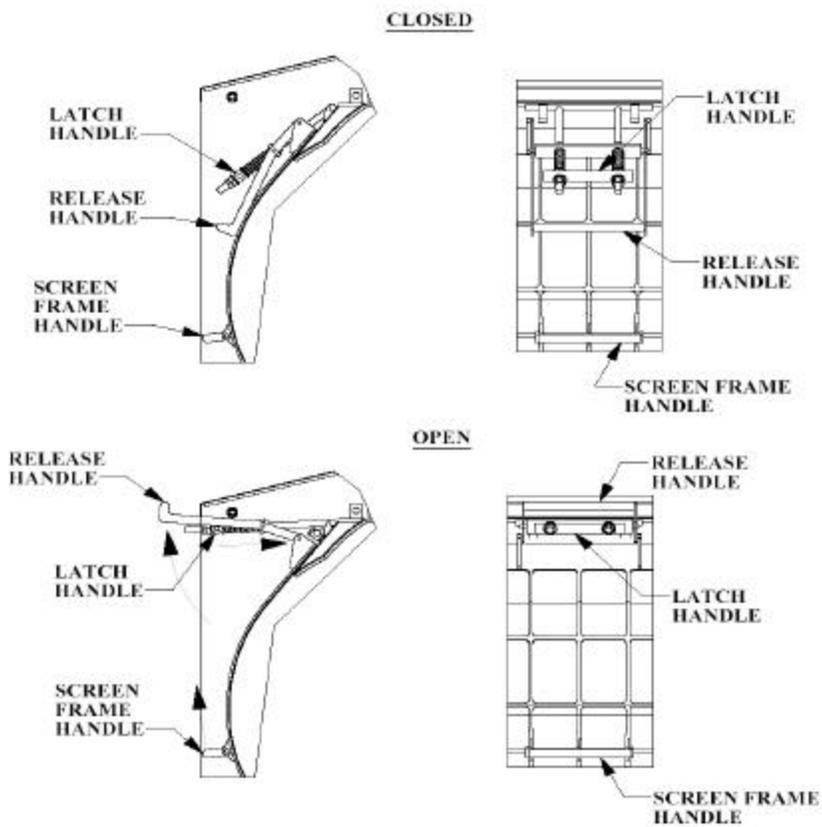

Figure 5-3: Evolution Mill Screen Carriage Latch
- 4.) Refer to Figure 5-3: while grasping the screen frame handle, push the release handle to orient it in the open position.